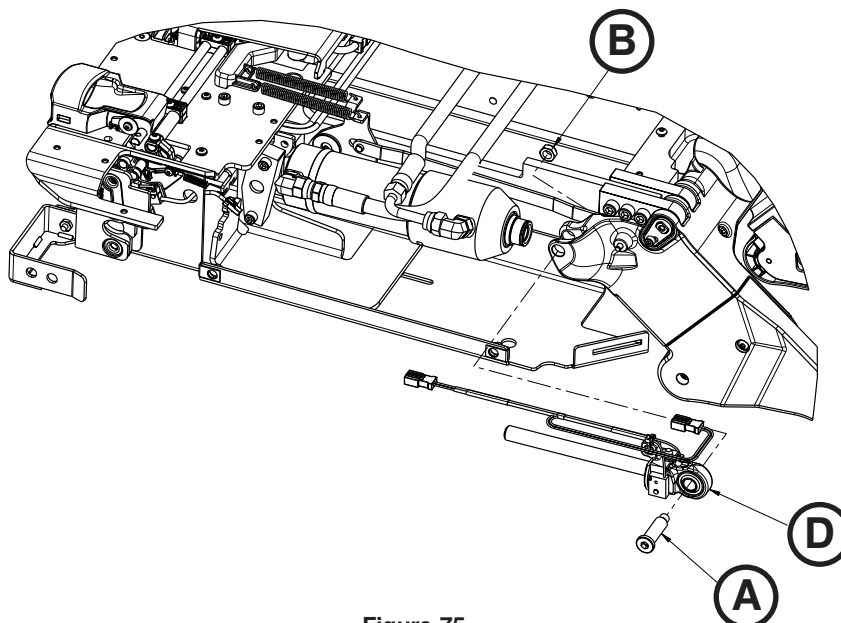

Figure 75
4. Using a 1/4" hex wrench and a 1/2" combination wrench, remove the cylinder clevis pin (A) and nut (B) (Figure 75).
6. While lifting up on the cylinder, pull the hydraulic cylinder rod end assembly (D) out and discard (Figure 75).